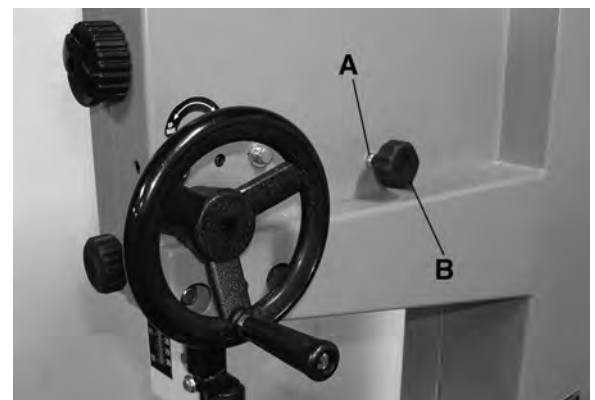

FIGURE 18
3. Loosen hex. nut (A) Fig.18 and turn the tracking adjustment knob (B) in small increments (1/2 turn at a time).
4. Turn the tracking adjustment knob (B) Fig.18 clockwise if the blade moves towards the front of the wheel. This adjustment tilts the top of the blade wheel towards the back and moves the blade toward the centre.
5. Turn the tracking adjustment knob (B) Fig,18 counterclockwise if the blade moves towards the rear of the wheel. This adjustment tilts the top of the blade wheel towards the front and moves the blade toward the centre.
6. Once adjustment is done, retighten hex. nut (A) Fig.18.